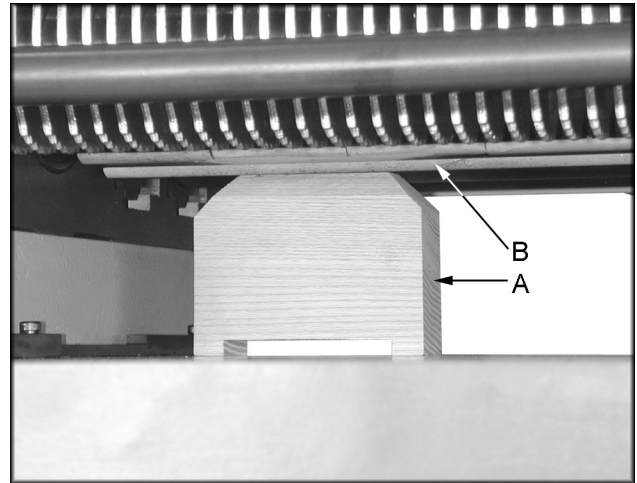
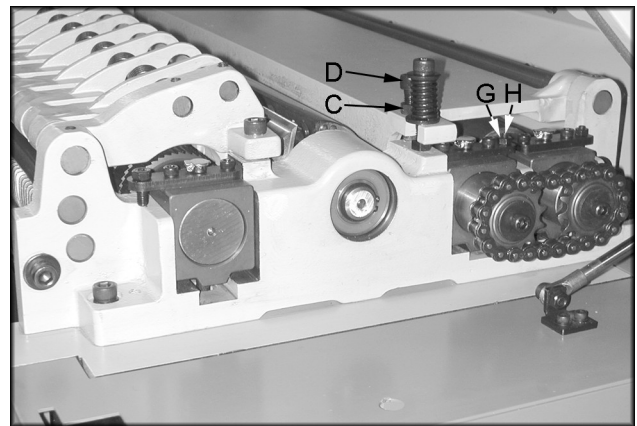
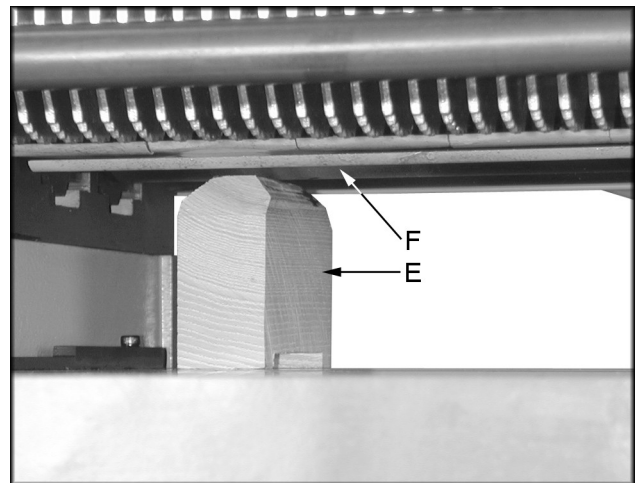

Figure 17
Figure 18
Figure 19
3. Place wood block (A, Figure 17) under the left side of pressure bar (B, Figure 17). The top of wood gauge should just contact the pressure bar. If it doesn't, loosen jam nut (C, Figure 18) and turn the adjusting screw (D, Figure 18) to raise, or lower the pressure bar until it contacts wood gauge. Repeat for opposite side of the pressure bar.
3. Remove feeler gauge and place wood block (E, Figure 19) under the left side of out-feed roller (F, Figure 19). The top of wood gauge should just contact the out-feed roller. If it doesn't, loosen jam nut (G, Figure 18) and turn the adjusting screw (H, Figure 18) to raise, or lower the out-feed roller until it contacts wood gauge. Repeat for opposite side of the out-feed roller.